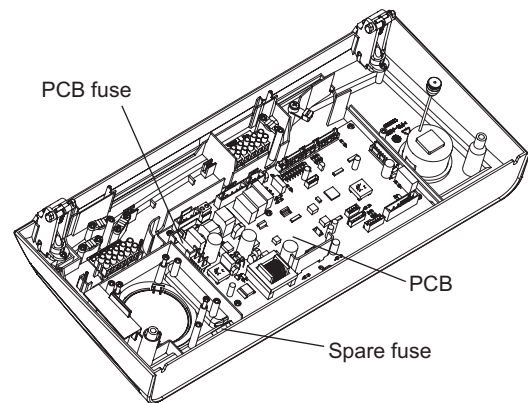

Fig. 31
7.11 FUSE - Fig. 31
Note: A spare fuse is supplied, as shown in Fig. 31.
7.12 PCB - Fig. 31